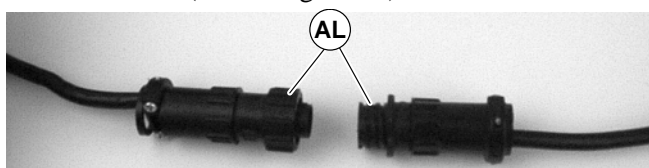

Figure 20
3. For DC variable speed motor, unplug motor cord at disconnect (AL of Figure 20).